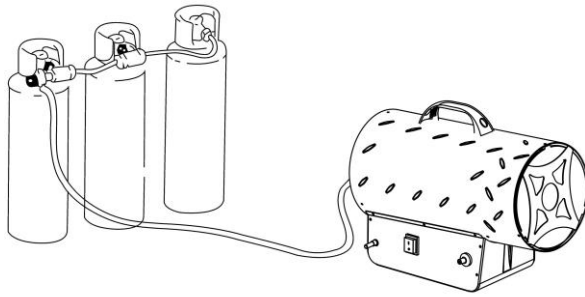

Figure 1
- 3.9. If the heater has to work for a long period at its maximum capacity, it's possible that ice will form on the cylinder. This is due to excessive vapour withdrawal. Not for this reason, or for any other, should the cylinder be heated. To avoid this effect, or at least to reduce it, use a large cylinder or two cylinders linked together (Figure1).